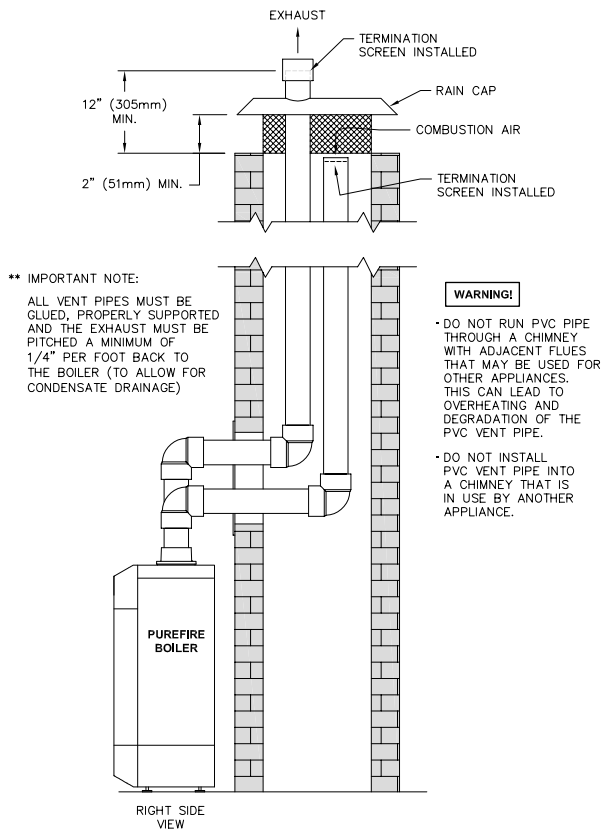

Figure 3.10: Venting Through a Chimney Using Outside Air
- e. Figure 3.10 shows an option for routing the exhaust and air inlet piping through an unused chimney.